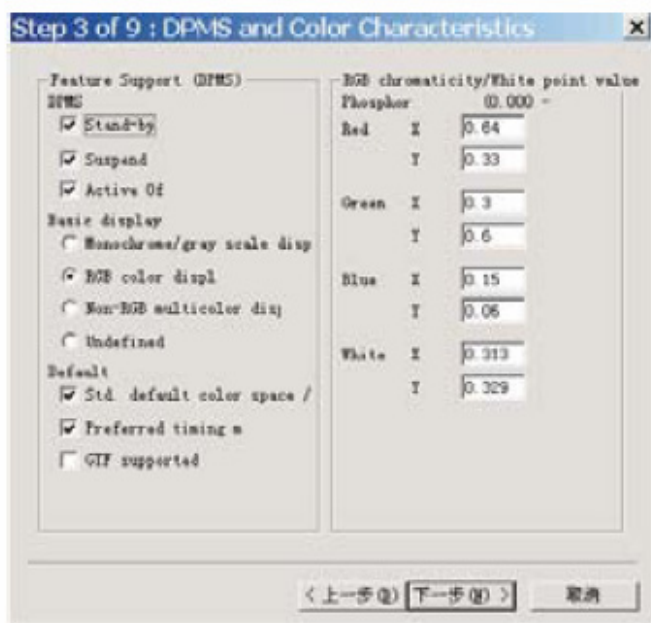
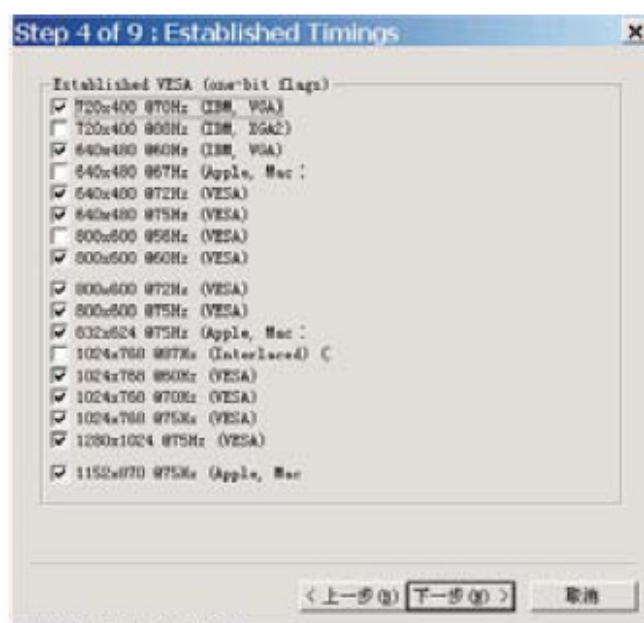

Fig. 33
Fig. 34
2. Click Next , bring up Fig. 33. Fig. 33 Fig. 34
3. Click Next , bring up Fig. 34.